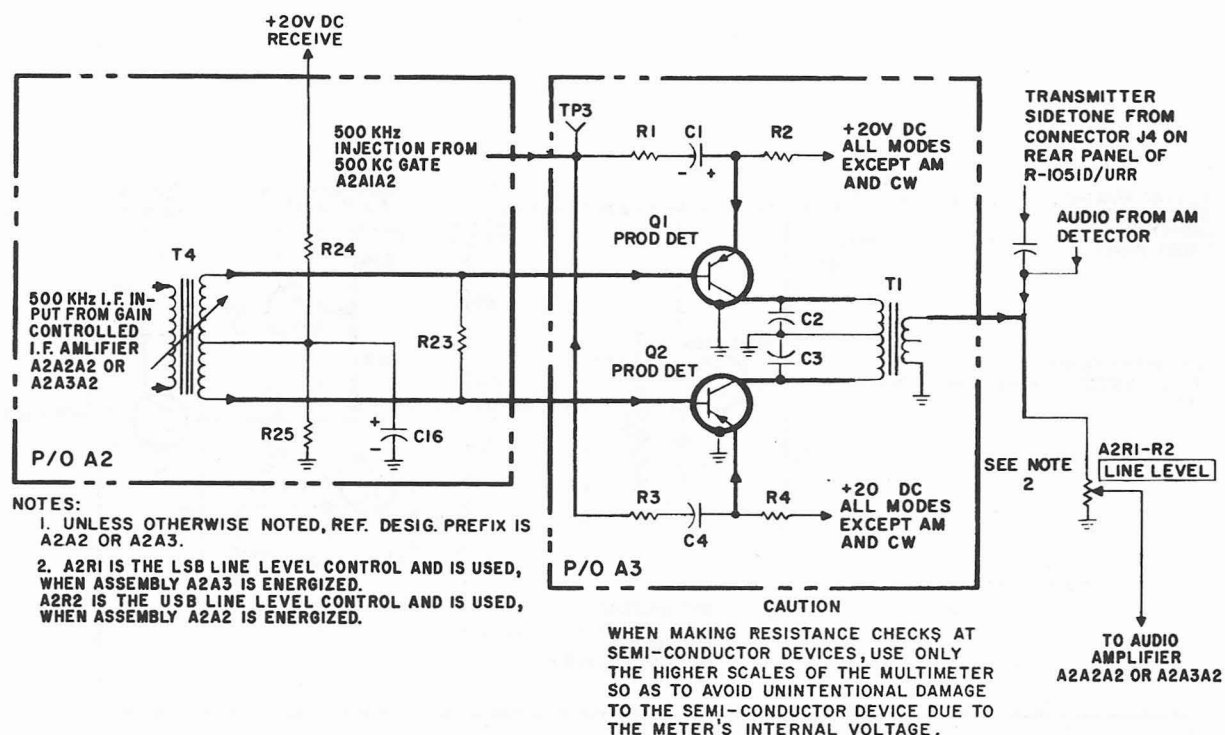

Figure 3-11. Product Detector, Simplified Schematic Diagram
i. PRODUCT DETECTOR. - The product detector portion (figure 3-11) consists of transistor stages A3Q1 and A3Q2 connected in a balanced mixer configuration. This circuit, which forms a part of if./audio amplifier electronic assemblies A2A2 and A2A3, extracts intelligence from the USB, LSB, ISB, or RATT 500-kHz if. signals. Product detector A2A2A3 is used during the USB and RATT modes of operation. Product detector A2A3A3 is used during the LSB mode of operation. Both product detectors are used during the ISB mode of operation. Neither product detector is used during the AM or CW modes of operation. The following paragraphs describe the operation of the product detector circuits in detail.
The emitter operating voltage is applied through emitter resistors A1R29 and A1R30 from the 20 Vdc present at the Mode Selector switch on the front panel. De-generation (developed by resistor A1R30) controls the gain and improves the distortion characteristics of amplifier A1Q9. The output of amplifier A1Q9 is applied to the USB LINE LEVEL control behind the front panel (see figure 3-11).